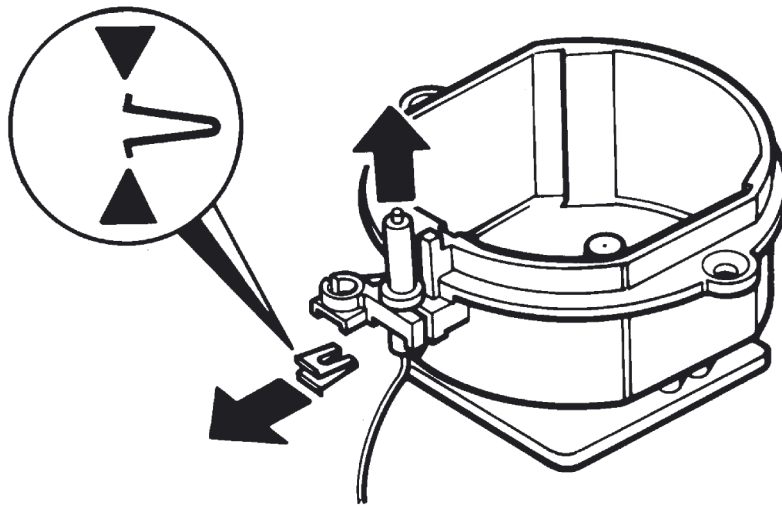

Fig. 13
4. Remove spring clip retaining electrode to burner body (See Fig. 13) and remove electrode and cable.